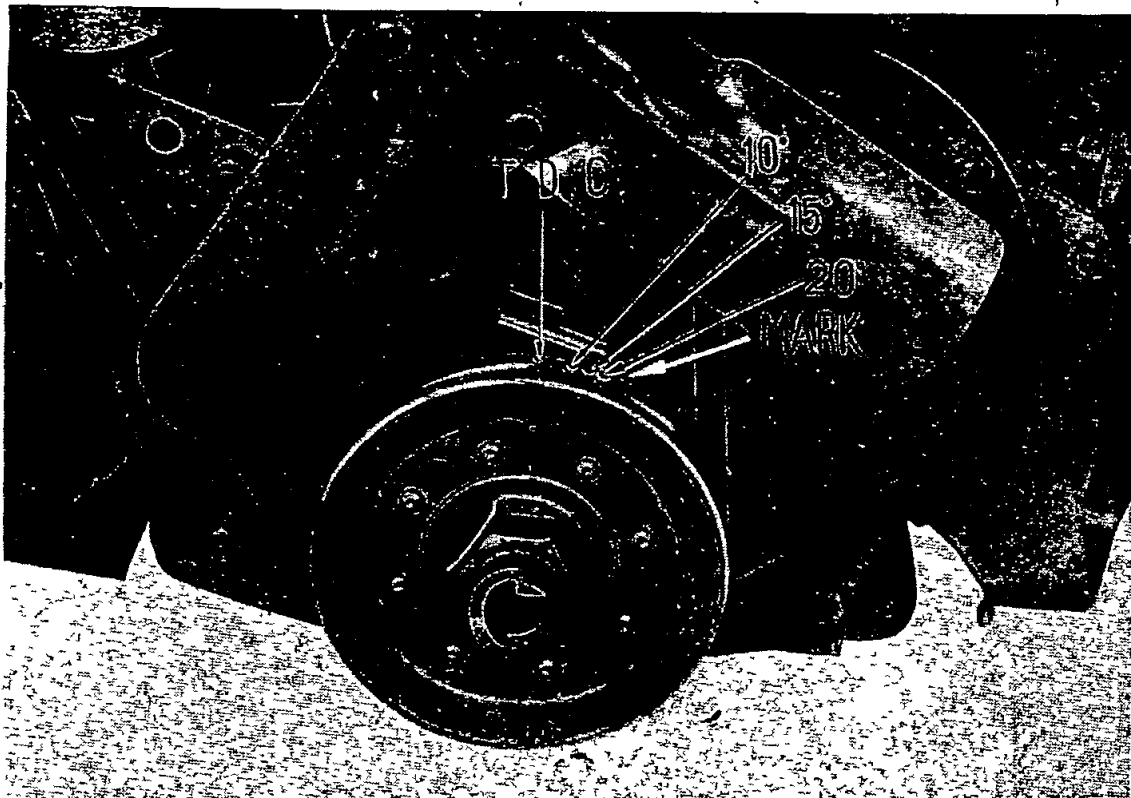

Fig. 1 Checking the Ignition Timing
The ignition timing is adjusted to 10 degrees before top dead center with the engine stopped as shown in Fig. 1. With this adjustment, the automatic timing advancer of the distributor advances the ignition timing even further at the time the engine starts to rotate, and the timing is maintained constantly at valves suitable for the rotational speed.
2. Turn the crankshaft gradually until the top dead center mark (Fig. 1) on the pulley periphery coincides with the mark for 10 deg. before top dead center on the timing gear cover as the crankshaft approaches its position somewhat before that corresponding to the end of the compression stroke of the No. 1 piston. Stop the crankshaft in this position. The compression stroke of the No. 1 piston can be determined if the spark plug of the No. 1 cylinder is removed, the hole plugged with a finger, and the crankshaft turned. With the crankshaft in the previously-mentioned position, the No. 1 piston is in its position of 10 deg. before top dead center of compression.